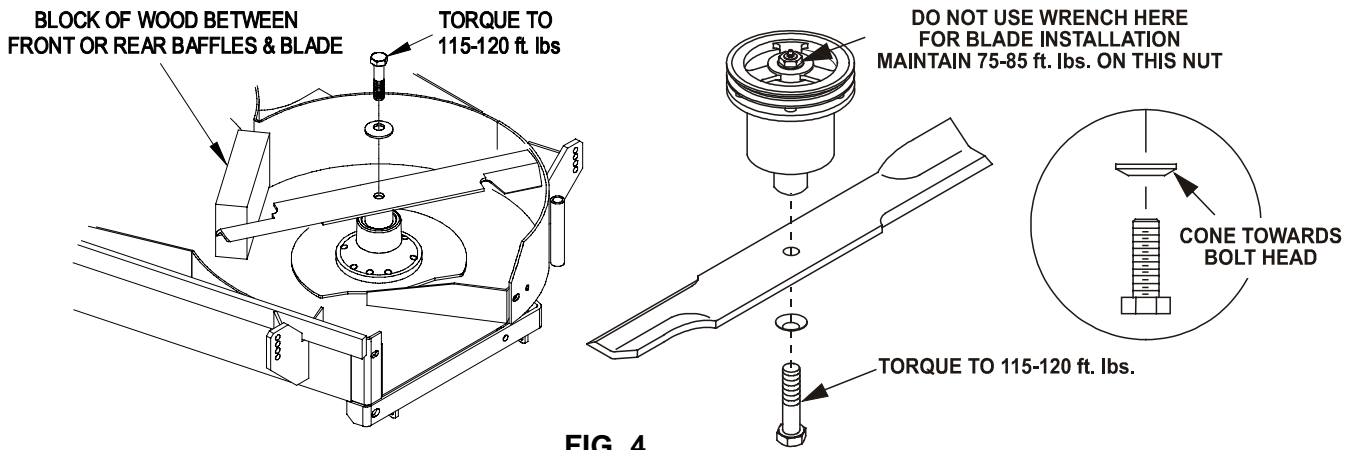

FIG. 4
- d) Re-install the blades (if they were removed) by placing a block of wood between the front or rear baffles and the blade then torquing the blade bolts to 115-120 ft. lbs. Be sure the spring disk washer cone is installed toward the bolt head. (See Figure 4).